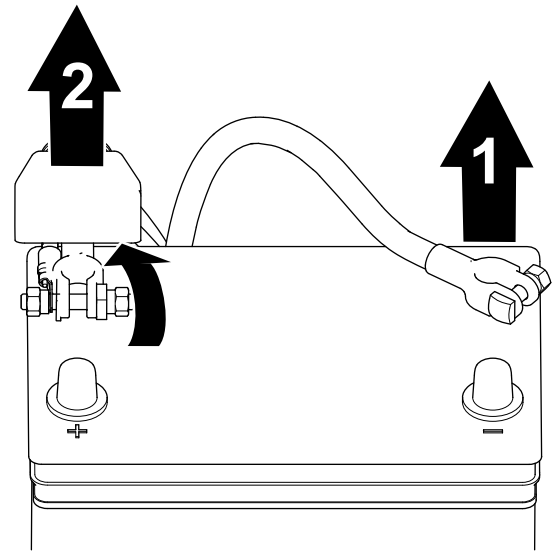

Figure 34
1. Remove the negative battery cable from the battery post (Figure 34).
2. Lift the insulator and remove the positive battery cable from the battery post (Figure 34).